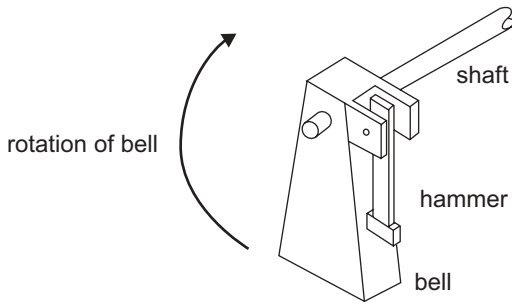
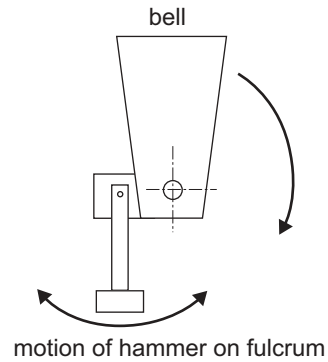

Figure 5
Figure 6
A different style of bell is to be trialed as shown below in Figure 5 and Figure 6.
e. Using the terms effort, fulcrum and load, describe the operation of the bell (Figure 5 and Figure 6).
f. Define the type of motion of the hammer in Figure 6.